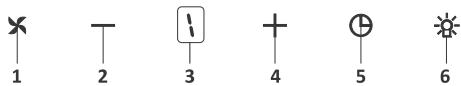

Fig. 19: 5 Spd Dig Button
1. ➔ Press this button to turn on the product.Fig. 19
2. ➔ Press this button to decrease the motor speed.Fig. 19
3. ➔ Dig display You can follow which speed the product is currently working on this display.Fig. 19
4. ➔ Press this button to increase the motor speed.Fig. 19
5. ➔ When timer button is pressed, a 15-minute timer function will be activated; display will give a signal once the timer starts and the motor will stop automatically after 15 minutes.Fig. 19
6. ➔ Press this button to turn on and off the lamp.Fig. 19